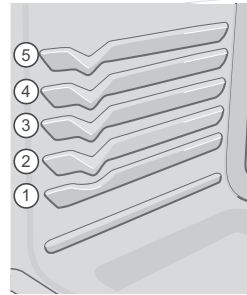

Figure 11: Rack positions
- For best results when baking cakes using two oven racks, place racks in positions 2 and 4 (See Figure 11).
- For best results when baking cookies using two oven racks, place racks in positions 2 and 5 (See Figure 11).